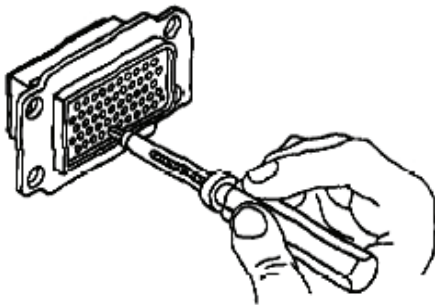

Figure 20. Unlocking Contact Retention Mechanism of Broken Wire Contact
d. If resistance is felt before removal tool reaches back end of contact, withdraw tool slightly, rotate about 1/6 of a turn, and reinsert tool. Repeat rotating and insertion procedure until tool passes with minimum additional force to 5/16 inch depth back end of contact (Figure 20).